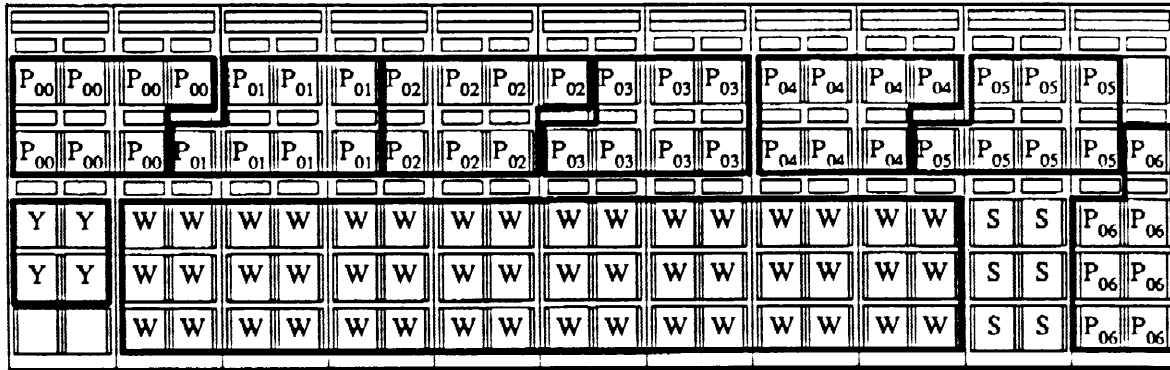

Figure 5-1. 7-Module System Wall-Mounted on Type-1 Frame
- *Wall-mounted frames.* The type-1 frame requires 10 frames and the type-2 frame requires 13 frames. This eliminates the type-2 frame since its 26-ft lineup would exceed the available wall space of 25 ft. The type-1 frame requires one additional frame to accommodate the required spare blocks. Figure 5-1, *7-Module System Wall-Mounted on Type-1 Frame*, shows one possible arrangement.
Several problems arise from the arrangement shown in figure 5-1, *7-Module System Wall-Mounted on Type-1 Frame*, that make it undesirable. First, because the module layouts are asymmetrical, cable terminations begin in a different location for each module. Second, the layouts for modules 1 through 6 require special frames since each spans three of the type-1 frames. Also, the yellow field shares the same frame as module 1. Third, these layouts require jumpers longer than the recommended 16 ft.